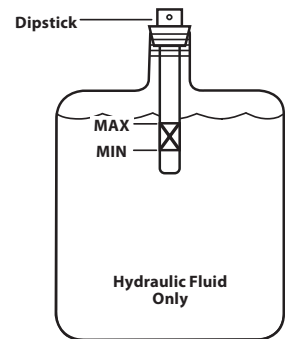

Figure 21
13. Refill the reservoir within range marked on the dipstick. See Figure 21.